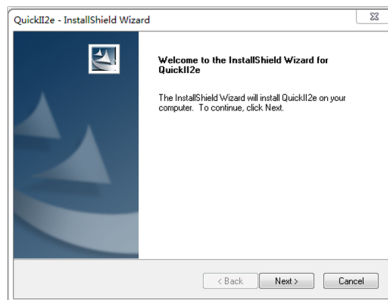

Fig 1.2
2. Enter introducing window of Quick II, as shown in the figure 1.2.